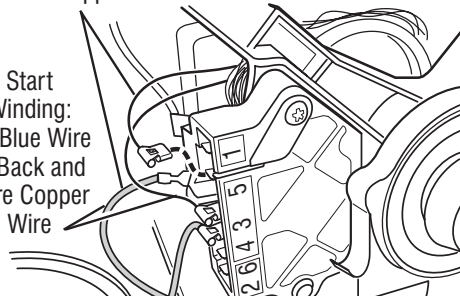

Figure 3 - Main and start winding measure points
9. Remove the bare copper wire terminal from pin 5 of black drive motor switch. See figure 3.
10. Using figure 3 and the strip circuit below, check for the resistance values of the motor's Main and Start winding coils as shown in the following table.